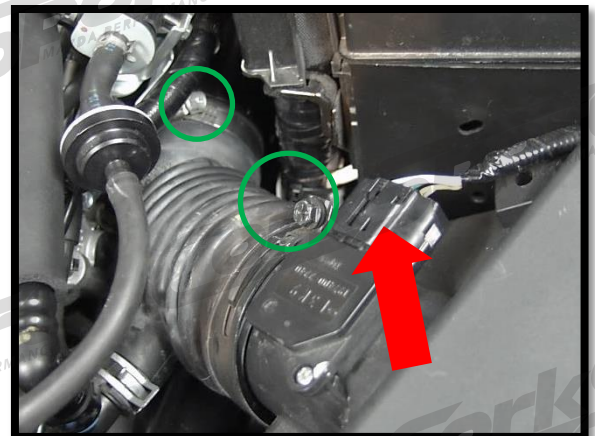

Figure 1b
- b) Loosen the two (2) 10mm hose clamps on the factory rubber intake elbow (green circles in Figure 1b).
- c) Unplug the MAF sensor located on the air filter housing (red arrow in Figure 1b).